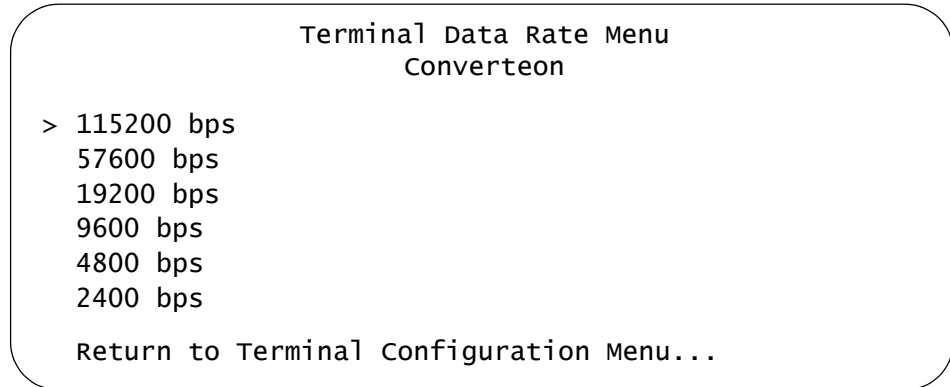

Figure 44. Terminal Data Rate Menu
4. Select **Data rate (baud rate)** to display the Terminal Data Rate Menu shown in Figure 44.